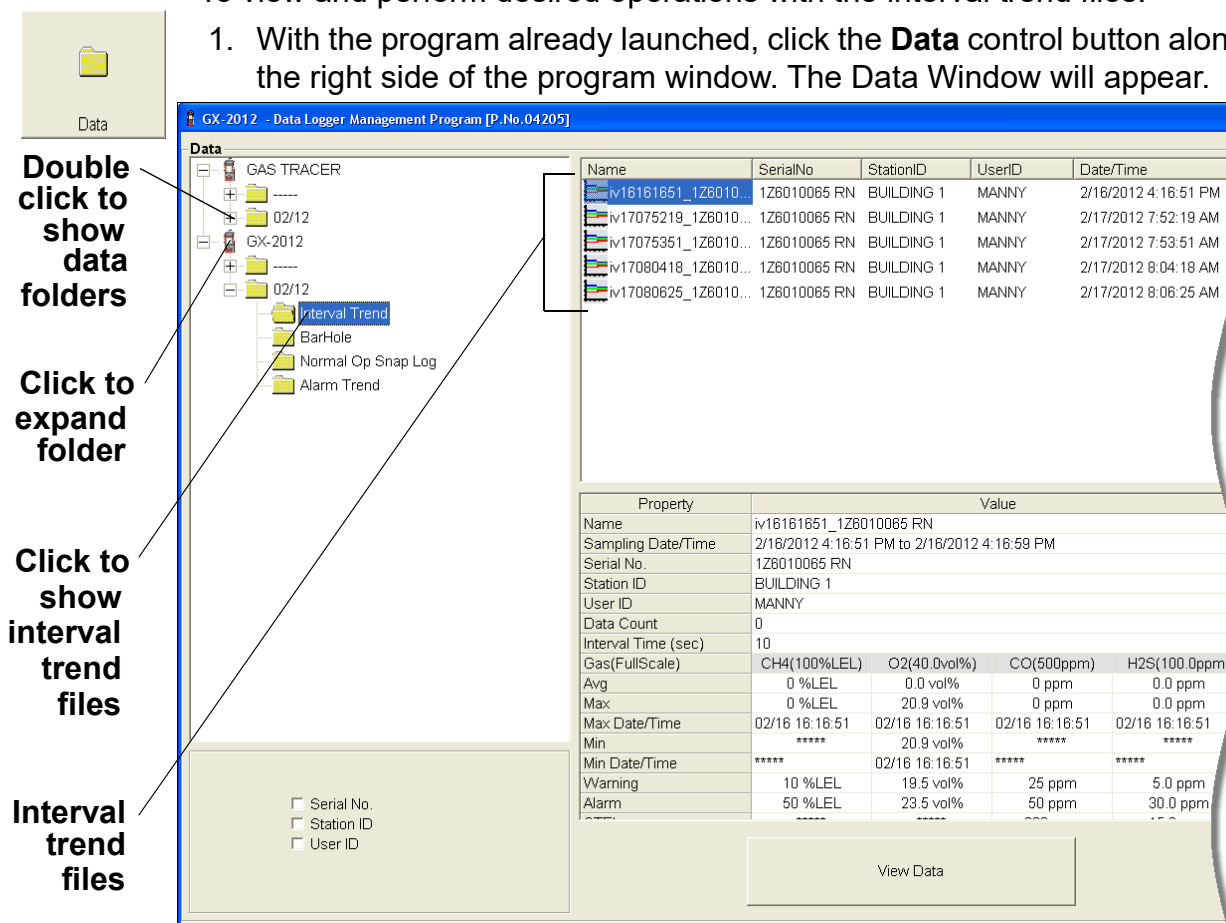

Figure 44: Data Window - Selecting Interval Trend Data Files
- If you click the **Summary** button, the Data Window will split into two frames, one above the other, with the data table in the lower frame and the summary information shown in the upper frame. The summary information is the same as the one shown in the lower right frame in Figure 44. To return to the one frame format, click **Summary** again.